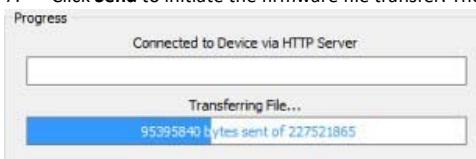

FIG. 160 NetLinx Studio - Send to NetLinx Device dialog (Progress bars indicating an active firmware file transfer)
- Click **Send** to initiate the firmware file transfer. The progress of the transfer is indicated in the progress bars (FIG. 160):